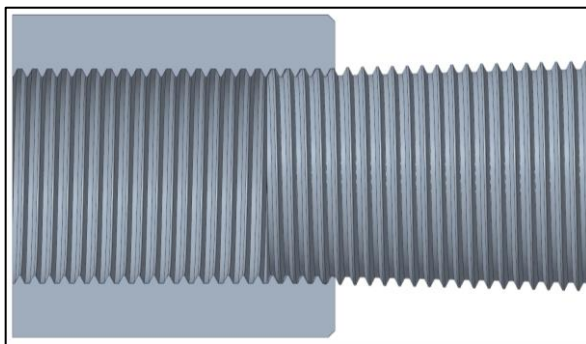

Figure 1: Conic external, and cylindrical internal thread
4. British standard pipe threads, type BSPT/R are conical external threads, which connect components with cylindrical, internal threads. This matching needs by design, no sealing tape / sealant. (See Figure 1)